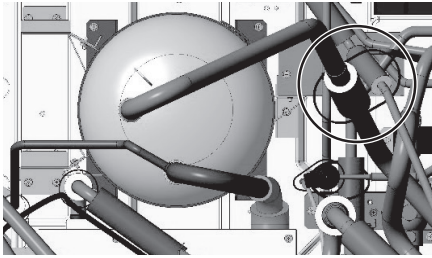

Figure 9
- (9) Remove the pipe cover. (2 covers, Figure 9)